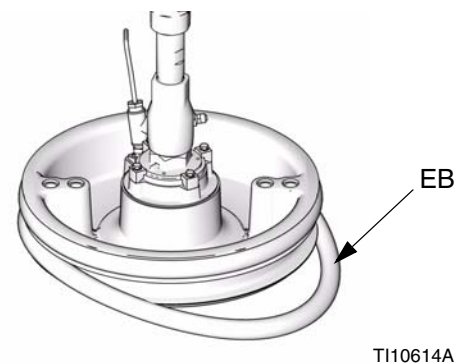

FIG. 18
1. Using a wooden or plastic tool to prevent damage to the wiper (EB), clean all material from seal grooves.
2. *Working from the bottom*, angle one wiper (EB) over back of platen. See FIG. 18.
3. Insert wiper (EB) in top groove and run front of wiper into groove.
4. *55 gallon wiper only*: Insert second wiper (EB) in lower groove and run front of wiper into groove.